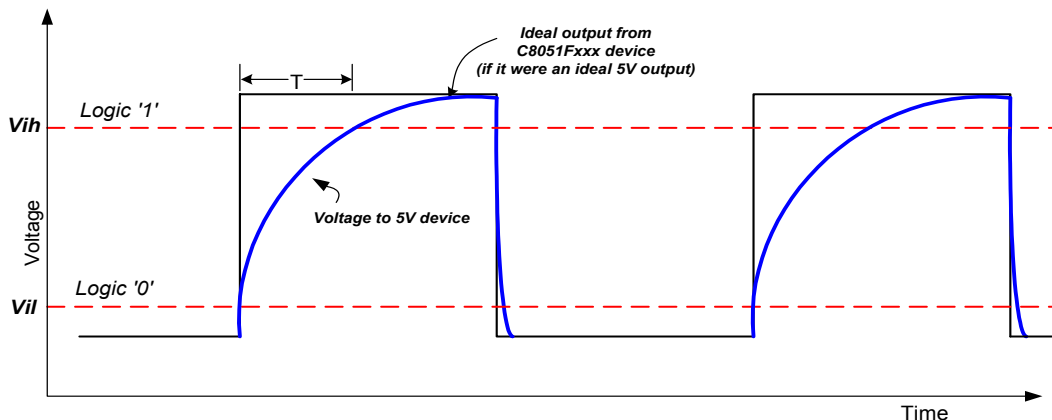

Figure 3. Square Wave With Charge Time Due To Stray Capacitance
ize a logic '1'. See Figure 3 below, where T is the time it takes to charge above the voltage required for the 5 volt device to realize a logic '1' (commonly referred to as V_{ih}). This voltage will depend on the application, as will the value of the stray capacitance. If the time constant is too large, the 5 volt device may never receive a high enough voltage to realize a logic '1' at a given square wave frequency. For this reason, the chosen pull-up resistance (R) must be low enough for proper input, but the R must not be so low that excessive power is dissipated in the pull-up resistor during logic low state.
Figure 3 to show the small decay time. The charge in the stray capacitance discharges through the C8051Fxxx port driver with a small voltage drop to ground.